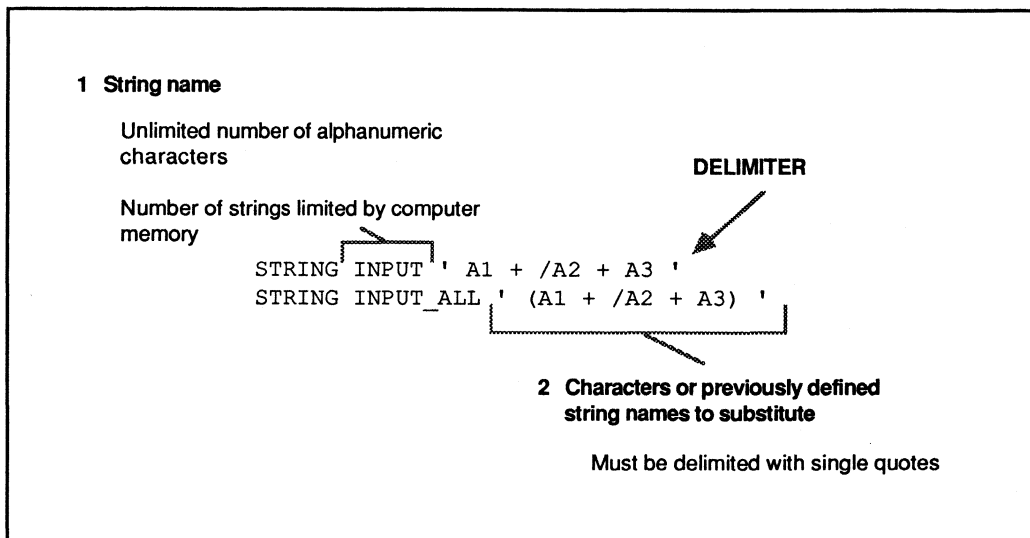

Figure 4-24
The single quotes ( ' . . . ' ) are delimiters that identify the characters for substitution. Figure 4-24 lists each entry and its specific syntax and shows two examples.
In Figure 4-24, notice that parentheses were added to the INPUT string to form the string entitled INPUT\_ALL. The difference between how /INPUT and /INPUT\_ALL are compiled is shown in Table 4-8.
**Compilation of String Definitions in Figure 4-24**